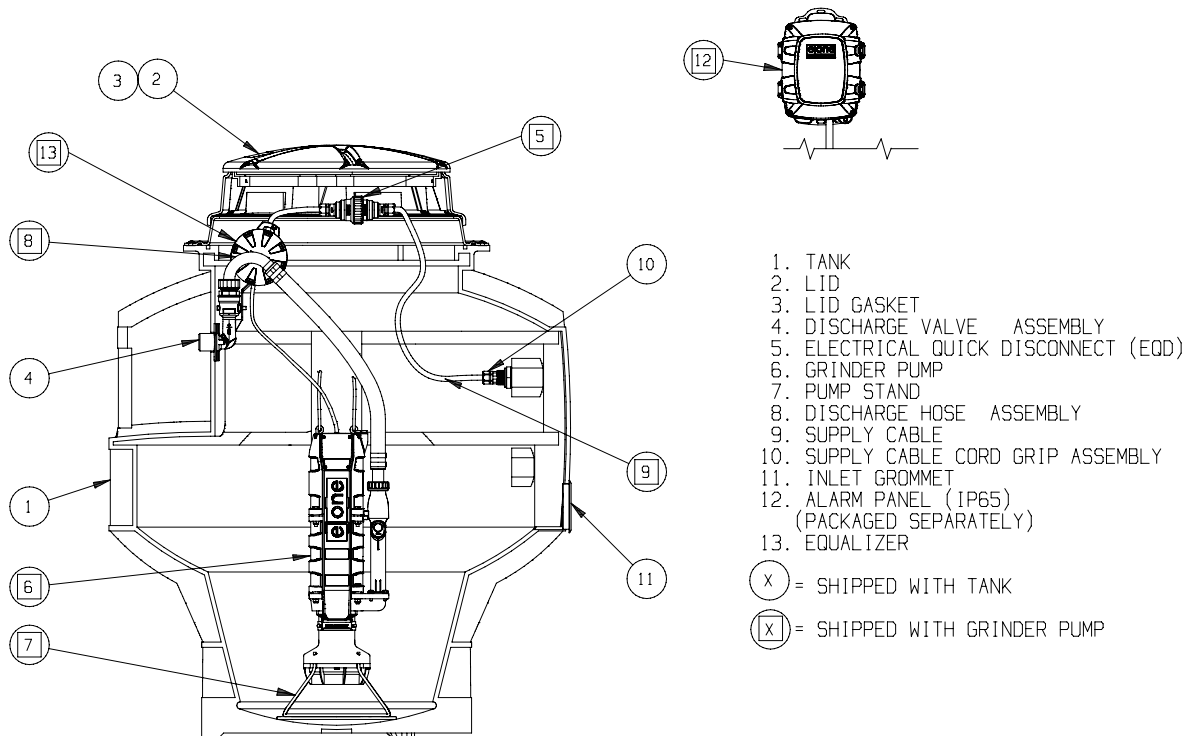

Fig. 1 - Station Components
1. Station Unpacking (Figure 1)